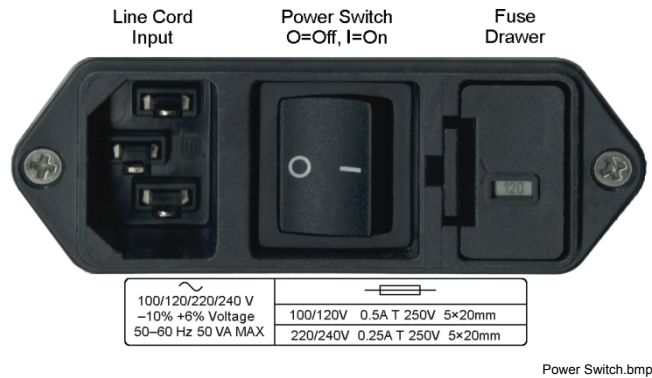

Figure 8-2. Power Fuse Access
1. Identify the line input assembly on the instrument rear panel. See Figure 8-2.
2. Turn the line power switch OFF (O).
11. Turn the line power switch On (I).
1. Locate line input assembly on the instrument rear panel. See Figure 8-2.
2. Turn power switch Off (O).